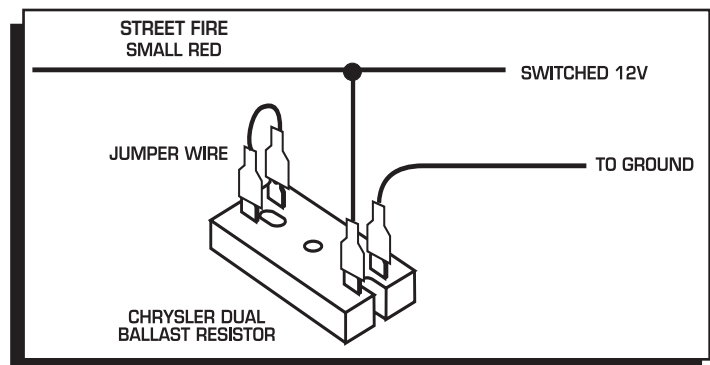

Figure 6 Wiring the Dual Ballast Resistor for Run-On.
**Most other applications:** On other applications where engine Run-On is experienced, a Resistor can be put in-line to the Street Fire's small Red wire (Figure 6). This resistor will keep voltage from leaking through to the Street Fire unit.